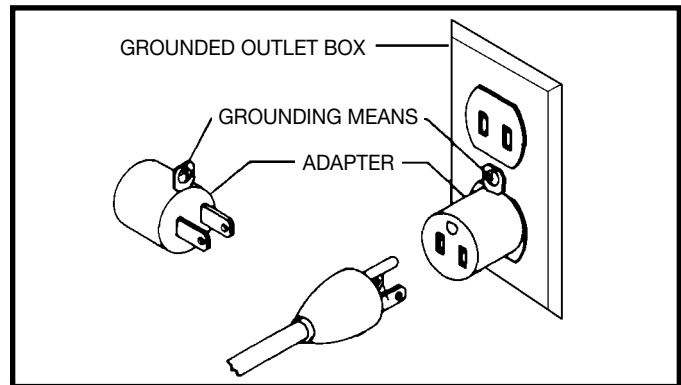

Fig. 92
2. If a properly grounded outlet is not available, a temporary adapter, shown in Fig. 92, may be used for connecting the 3-prong grounding type plug to a 2prong receptacle. The temporary adapter should be used only until a properly grounded outlet can be installed by a qualified electrician. The green colored rigid ear, lug, or the like extending from the adapter must be connected to a permanent ground such as a properly grounded outlet box cover. Whenever the adapter is used, it must be held in place with a metal screw.